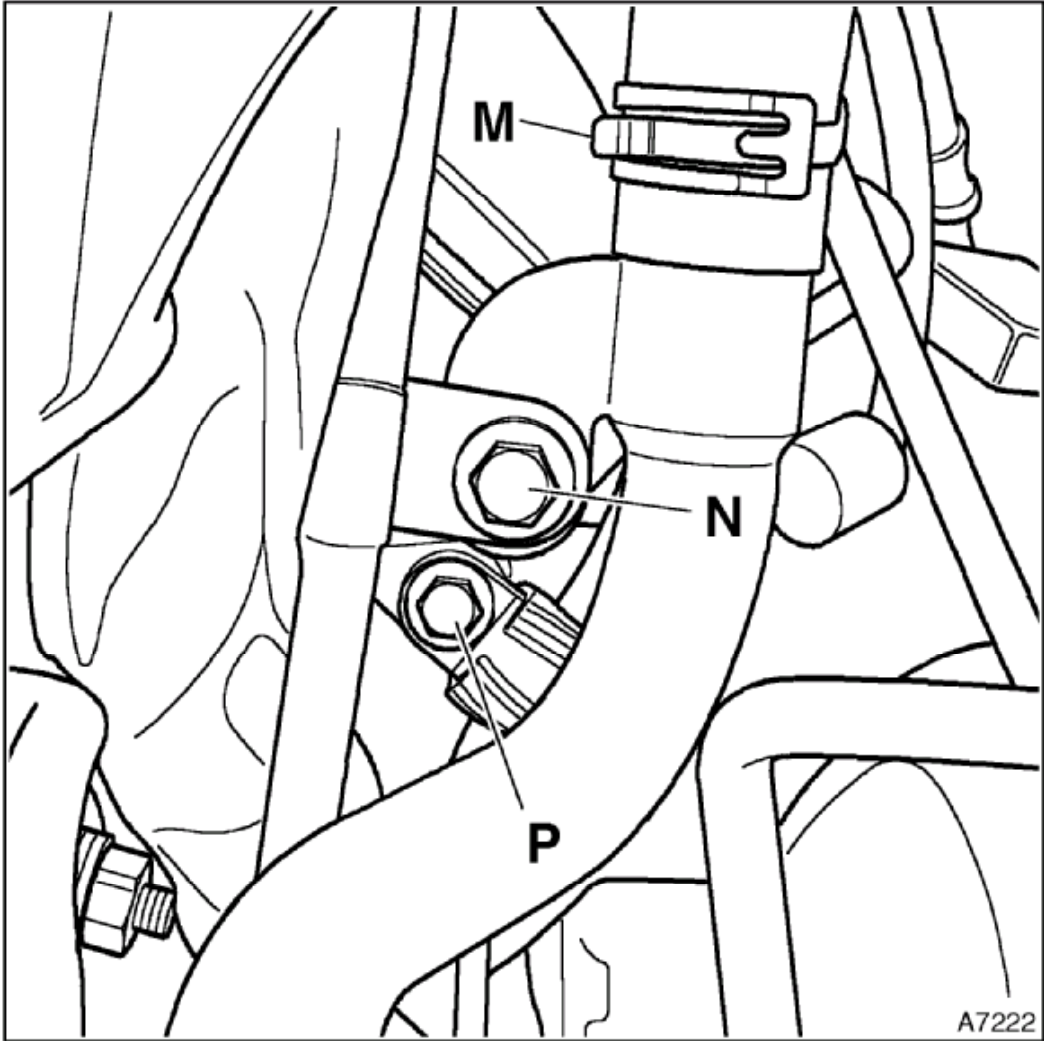

Figure. 8
19. Release the hose clip M, at the bottom of the short hose, on the other end of the coolant inlet pipe. Remove the coolant inlet pipe and hose as an assembly. See figure 8.
20. Remove the bolt N, from the upper bracket on the pump to chargecooler pipe (the bolt also retains the dipstick tube bracket). See figure 8
21. Remove the screw P, from the 'P' clip, which secures the sensor cable. See figure 8